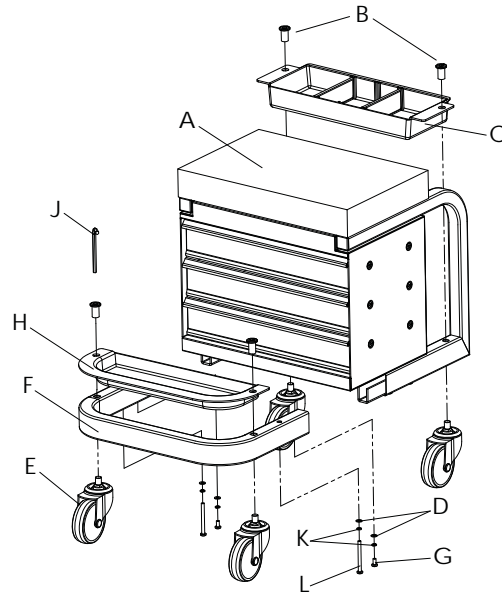

Figure 2- Assembly
Before beginning assembly of product, make sure all parts are present. Compare parts with package contents list and Figure 2 illustration. If any part is missing or damaged, do not attempt to assemble, install or operate the product. Contact customer service for replacement parts.
## ASSEMBLY INSTRUCTIONS (ref. Figure 2)
1. Join frame sections by inserting front frame section (F) into channel sections of tool box subassembly (A). Line up screw holes and thread screws (G) fitted with washers (D) into corresponding holes in channel sections. Do not tighten screws yet.
2. Assemble a caster (E) and a tool tray (C or H) simultaneously. Position a caster stud into lower frame hole as seen in Figure 2. Place tool tray into position by aligning the lower frame thru-hole with corresponding hole in tool tray. Insert caster fastener into the swivel caster stud.